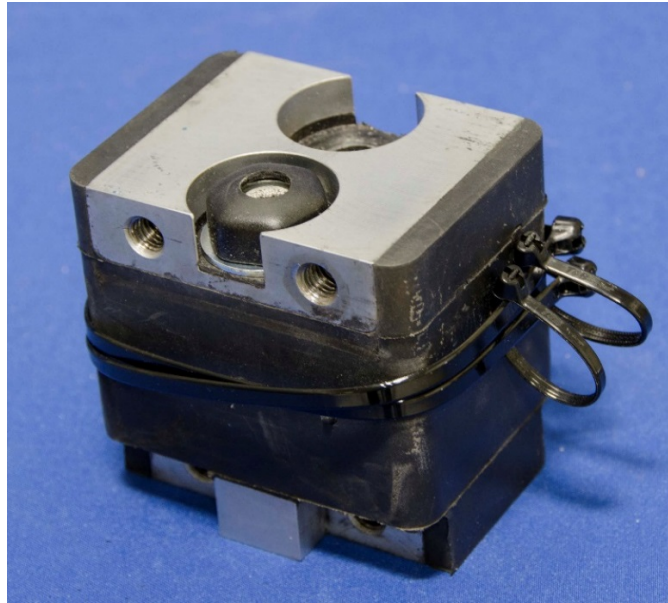

Figure 5-12. Vinyl nut cover over lumbar locknut
- 5.2.2.4 Place the M12 Vinyl Nut Cover (472-3647) over the modified locknut (Figure 5-12).